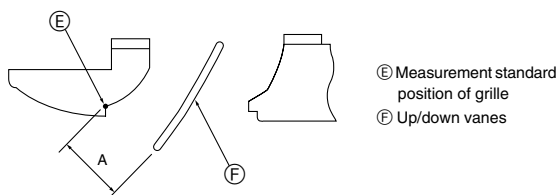

Fig. 8-10
- ① Turn off the main power switch.
- ② Disconnect the connector for the vane motor of the vent that you want to lock. (While pressing the button, remove the connector in the direction indicated by the arrow as shown in the diagram.) After removing the connector, insulate it with tape.
- ③ To adjust the desired airflow direction, slowly move the up/down vanes within the specified range. (Fig. 8-10)